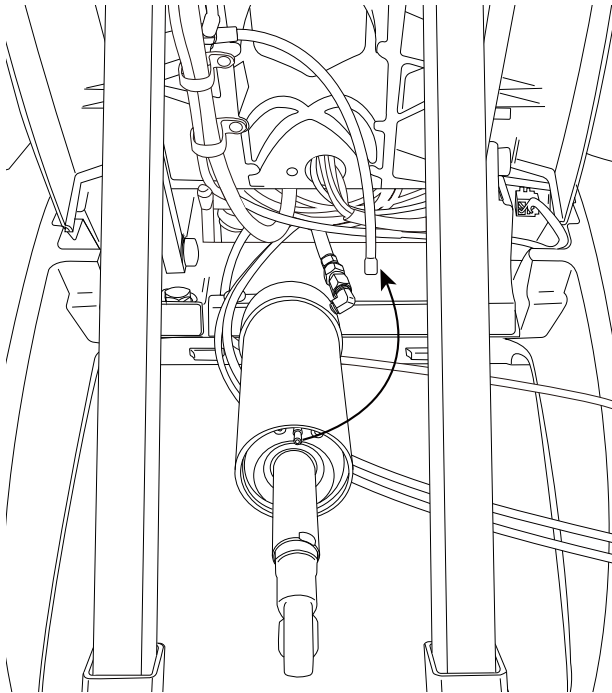

Figure 8. Disconnecting the vent line
- 5** Disconnect the vent line (see Figure 8).